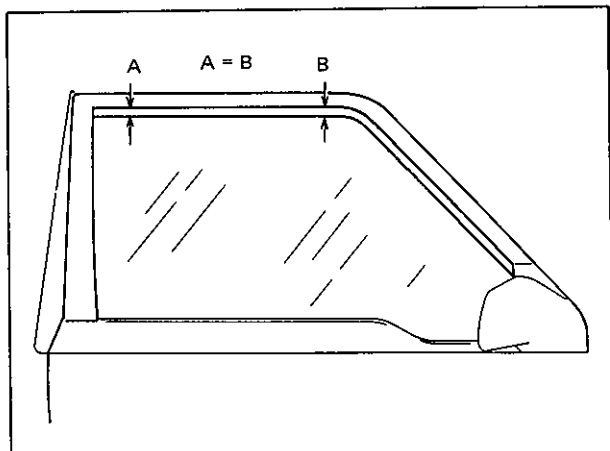

Fig. 9-10 Reference Mark Alignment
3. Adjust equalizer of window regulator so that measurements A and B as indicated in Fig. 9-10 are equal.